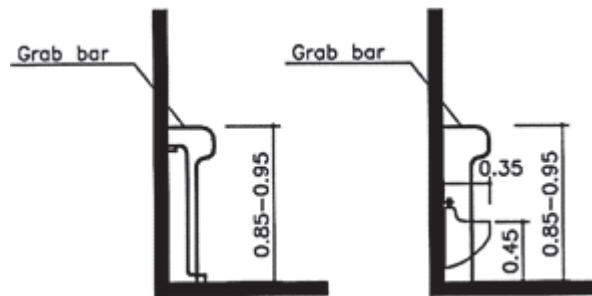

Fig. 13
- The upper edge of the bidet should be between 0.45 m and 0.50 m from the finished floor level. (1)
6) Urinals: (fig. 13)